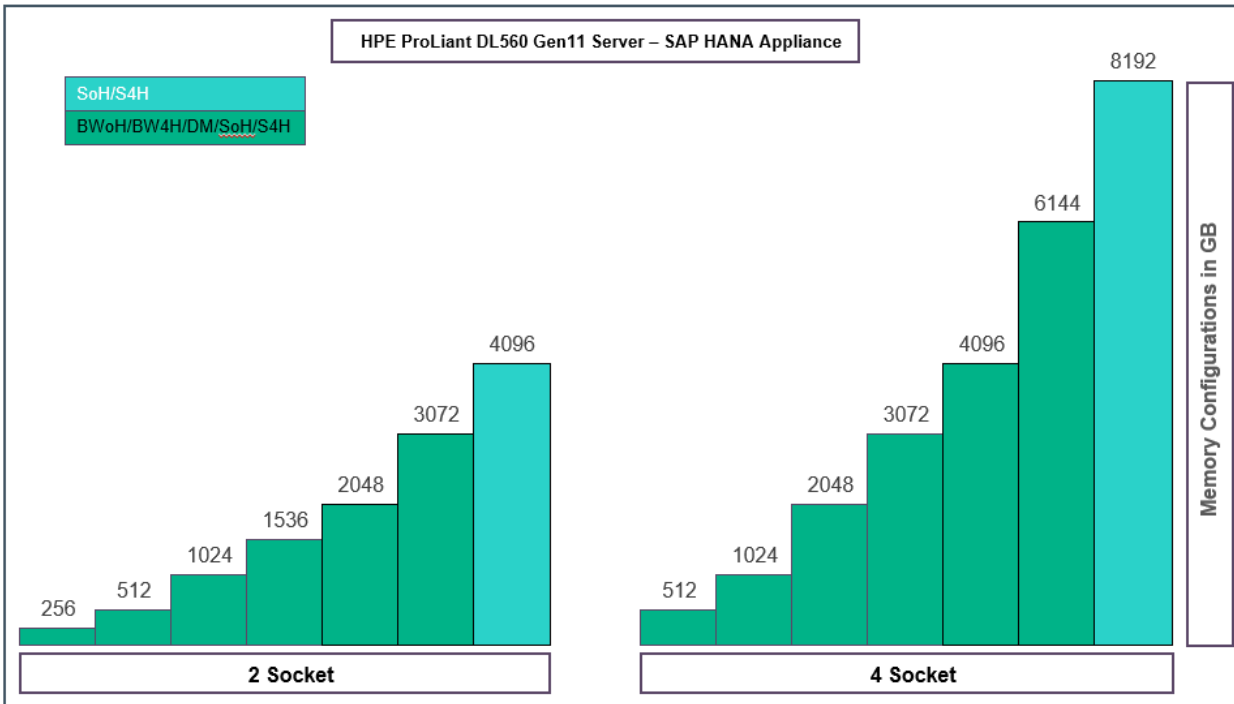

FIGURE 1. Memory configuration for HPE ProLiant DL560 Gen11 Server for SAP HANA
The HPE ProLiant DL560 Gen11 Server, available in 2- or 4-socket configurations, is an optimal solution for running SAP workloads like SAP Business Warehouse (BW) on HANA, SAP Business Suite on HANA (SoH) and S4/HANA. Figure 1 shows the memory footprints offered for 2- and 4-socket configurations.